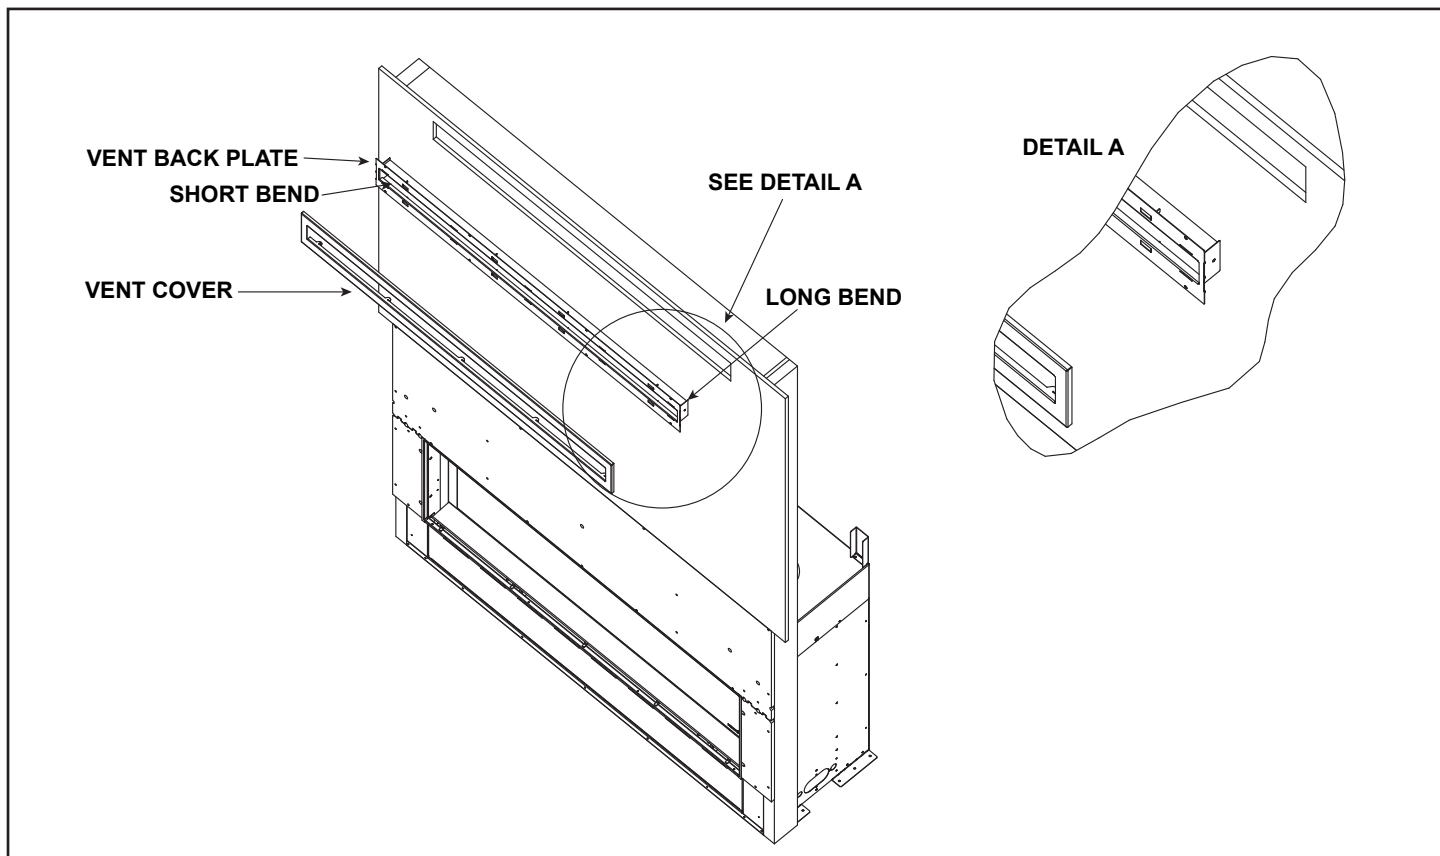
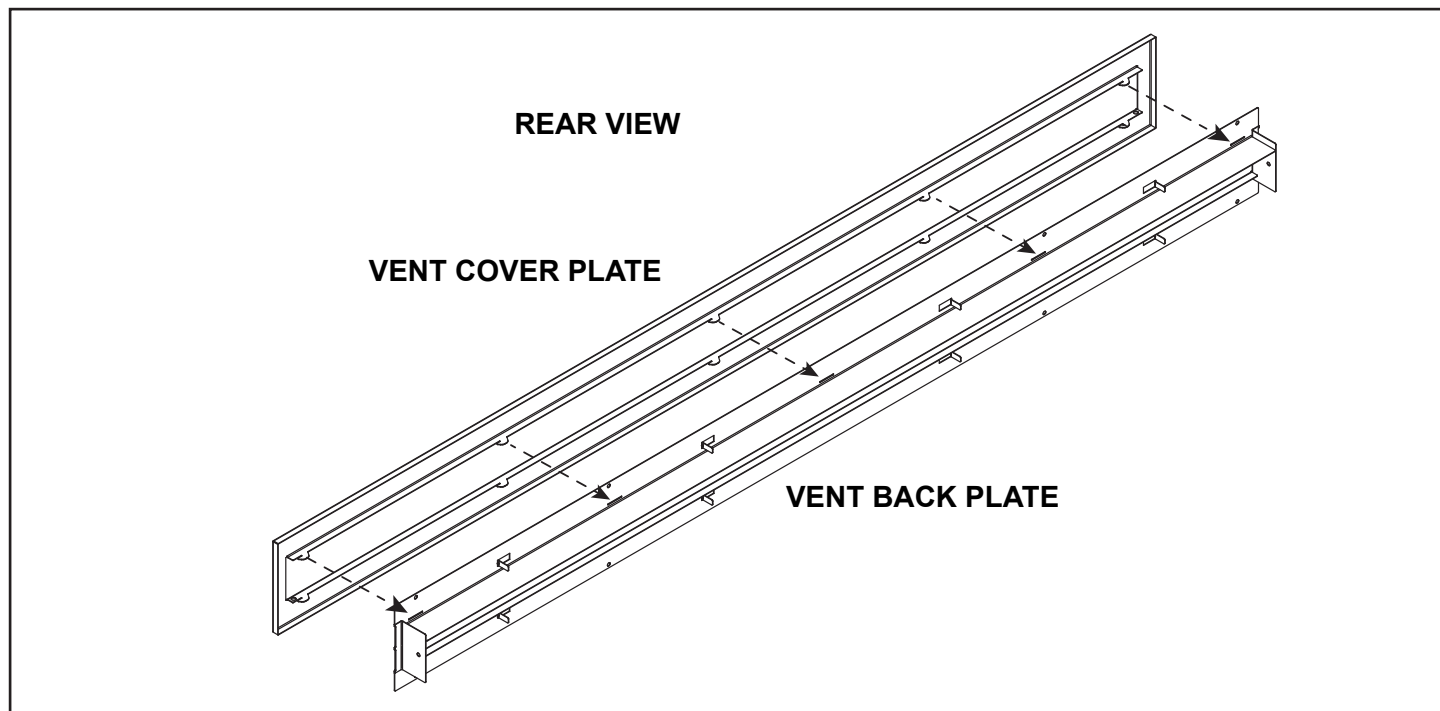

Figure 2 Orientation of Back Plate Bends
Figure 3 Attach Vent Cover to Vent Back Plate - Rear View
3. Attach the vent back plate to the wall using the drywall screws provided. See Figures 2 and 5.
5. Attach the vent cover to the vent back plate by lining up the hooks of the vent cover plate to the slots on the vent back plate. Slide cover to engage hooks. See Figure 2 (front view) and Figure 3 (rear view).